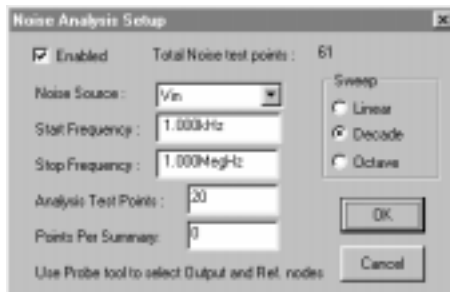

Figure 6.23. Use this dialog box to set up Noise Analysis.
- 3 Click the **Noise** button to display the dialog box pictured in Figure 6.23.